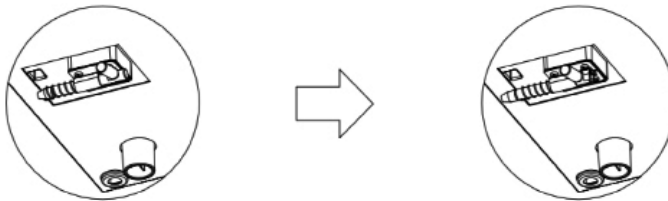

figure 1
1. Place Main Unit (A) onto the top of the Storage Compartment (B).
2. Ensure that the two inserting pins underneath the Main Unit (A) line up correctly so that Main Unit (A) can be locked under the beam of the Storage Compartment (C) (see figure 1).